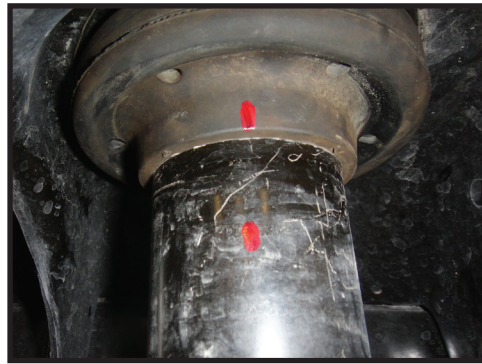

FIG.4
6. With a marker, make a line on the coil isolator and coil bucket to indicate isolator clocking. Carefully lower the front axle until the coil springs can be removed. Use caution to not overextend any brake or ABS lines when lowering the axle. [FIGURE 4]